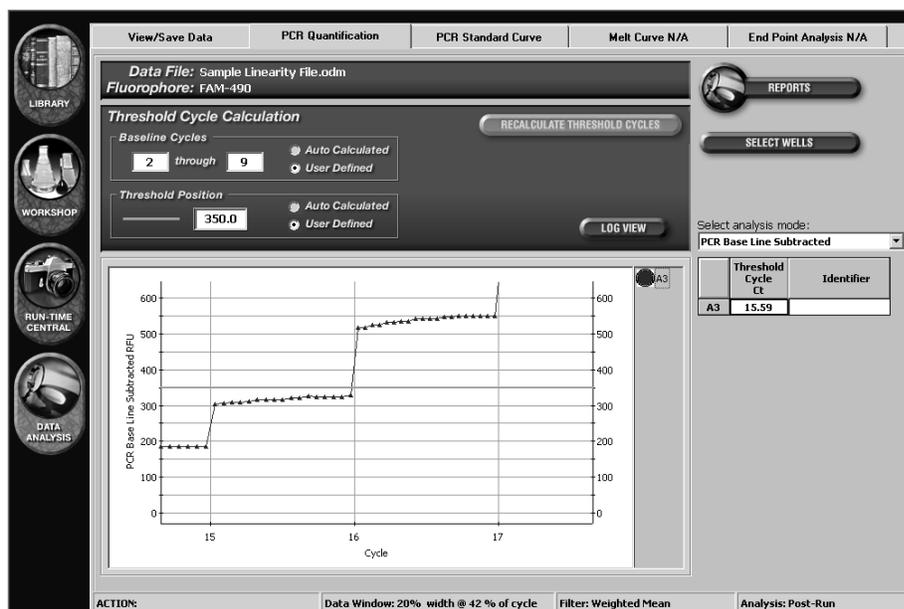

Fig. 7.15. Zoomed in view.
7. Choose a single well by clicking on its paint pot to the right of the plot. While holding down the Shift key, drag the mouse across a section of the plot to zoom in on. You may zoom in more than once. (Figure 7.15)